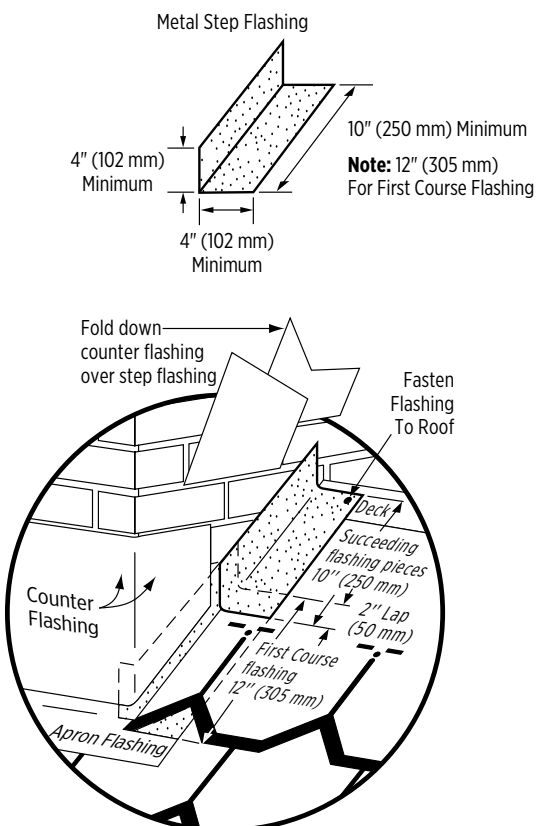

Figure 17-14: Metal step flashing for Carriage House®.
**INSTALLING STEP FLASHING:** Use 8" by 10" corrosion-resistant metal such as copper. For the first course of Carriage House® only, use a 8" by 12" piece of metal flashing (Figure 17-14).